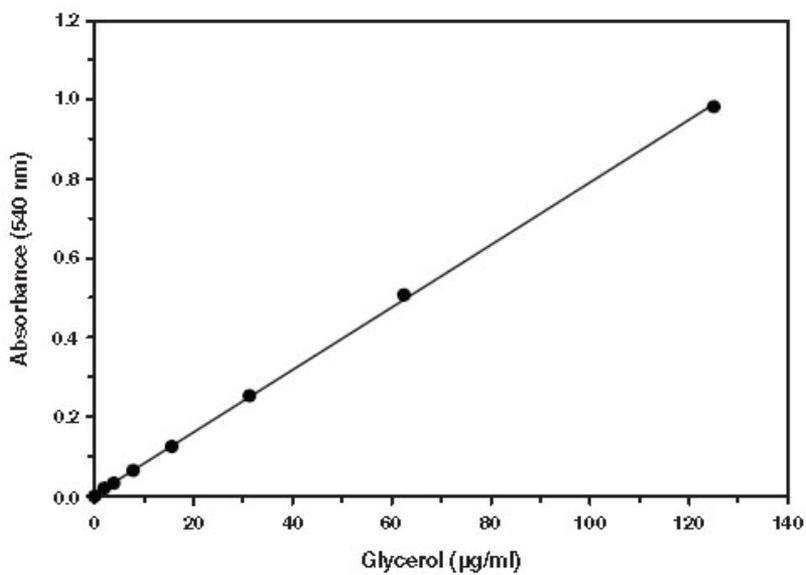

Figure 2. Typical glycerol standard curve.
4. Graph the corrected absorbance values of each standard as a function of the final glycerol concentration. See Figure 2, on page 10, for a typical standard curve.